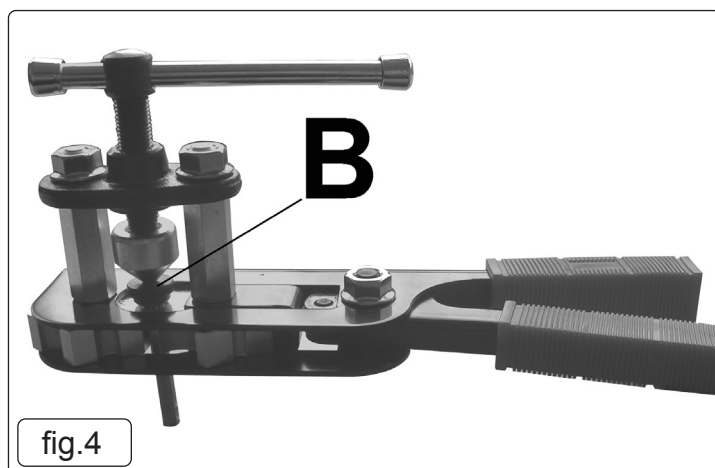
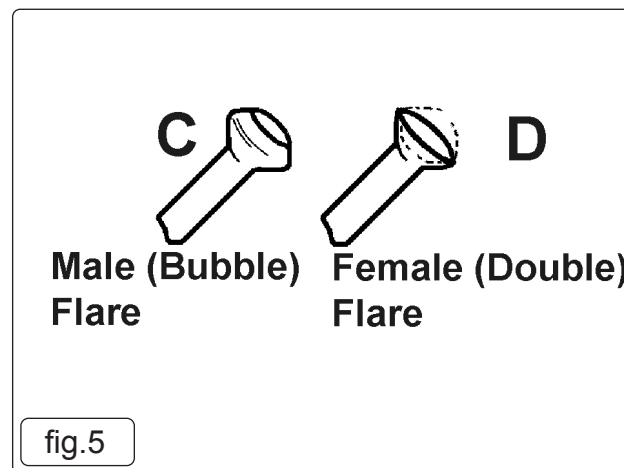

fig.4
fig.5
- 4.4. To form a Male (Bubble) flare (fig.5.C). Proceed as above (4.3), then place the appropriately sized die in the pipe end (fig.4.B), position the press above the die and screw down until stiff resistance is felt. Remove the press and check that the flare is symmetrically formed.
- 4.5. To form a female (Double) flare (fig.5.D). Proceed as above (4.4) to produce a male (Bubble) flare, then swivel the flare press, without a die fitted, over the exposed pipe. Screw the press down. This will fold the top section of the 'male' flare inwards to form a female 'double' flare (fig.5.D). Again, check that the flare is symmetrically formed.